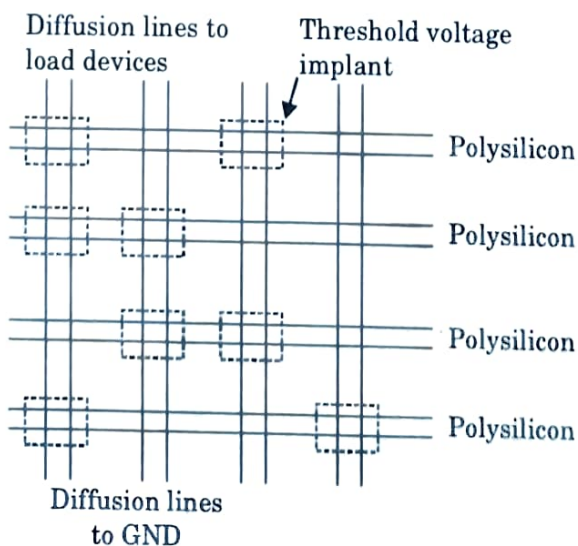

Fig. 4.6.2. Implant mask layout of the NAND ROM array.
- Fig. 4.6.2 shows a sample 4 bit \times 4 bit layout of the implant mask NAND ROM array.